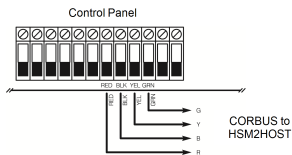

Figure: 1 Wiring Diagram
1. With the alarm panel powered down, connect the HSM2HOST to the four-wire Corbus of the alarm panel according to Figure 1.